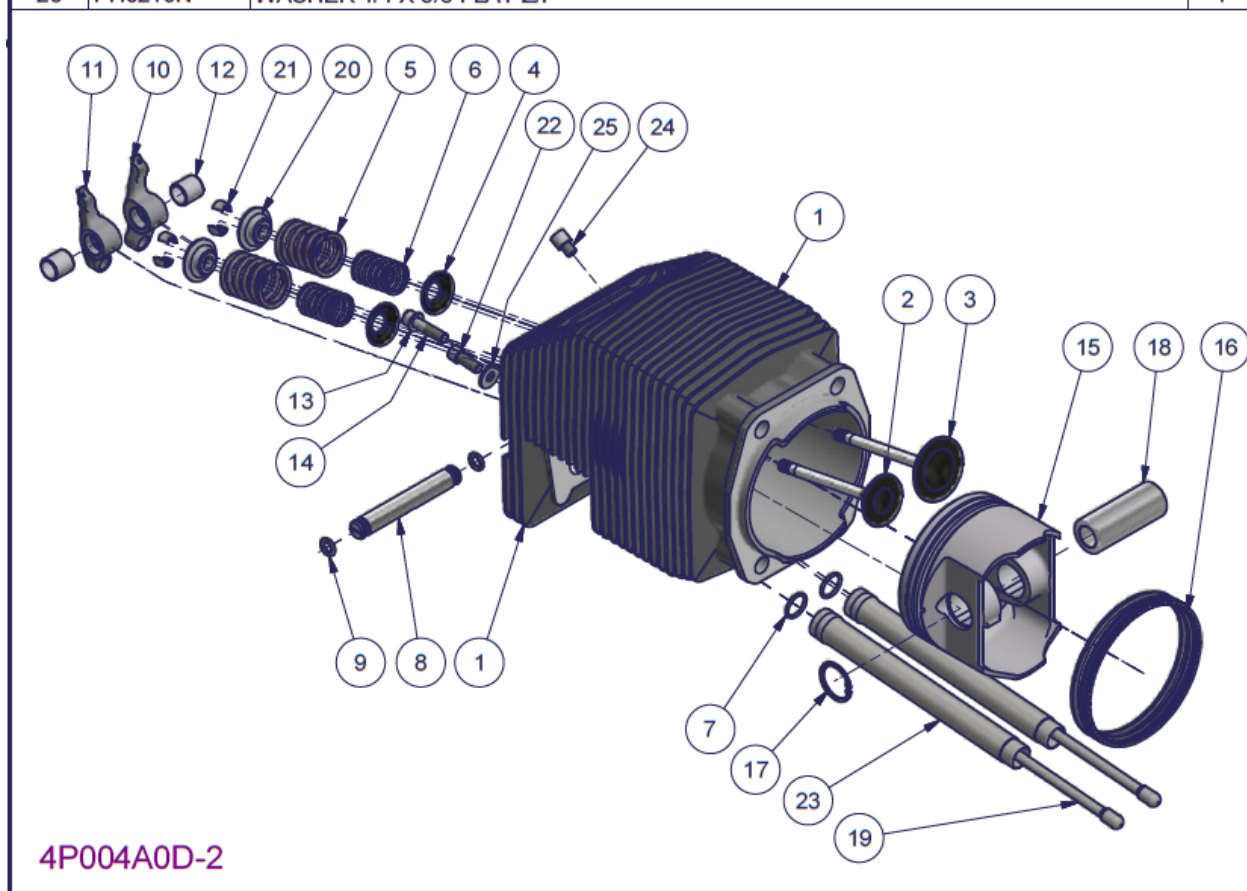
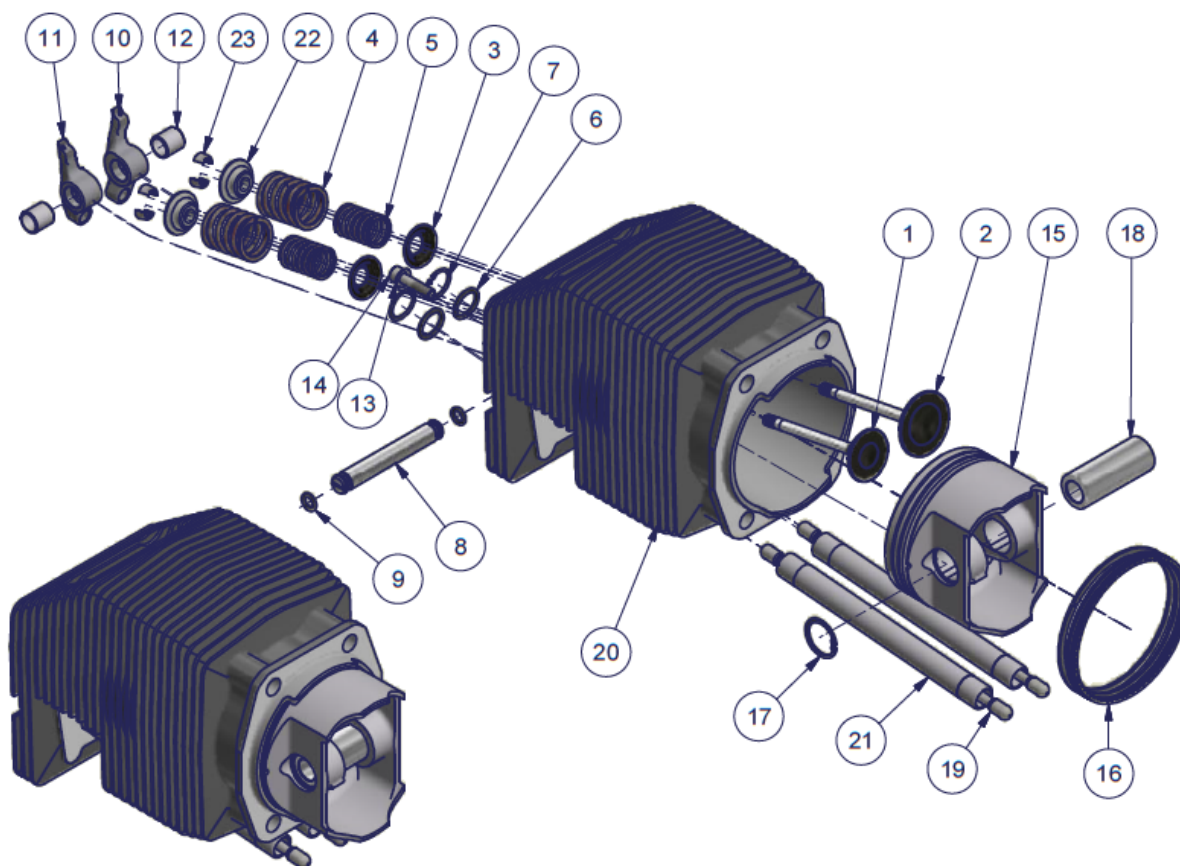

Figure 48 - 2200/3300 Cylinder subassembly - Parts list
Figure 49 - 2200/3300 Cylinder subassembly - Parts list
- The two designs are interchangeable and external O-ring groove cylinder can replace internal O-ring groove cylinder at overhaul. However the pushrod tube must also be replaced. Check the parts list provided (Figure 48, Figure 49) for the relevant part numbers.